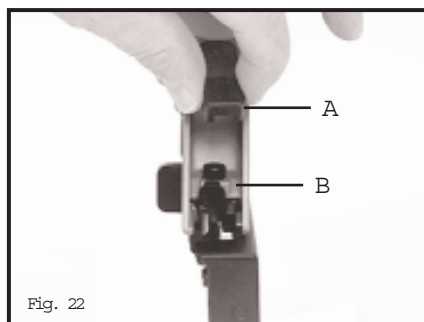

Fig. 22
This tool is equipped with a rubber nose cushion (A) Fig. 22, that prevents marring of finished surfaces by the metal safety during normal operation. The nose cushion can be removed and stored in the rear area of the tool (B) Fig. 22, when it is not required.